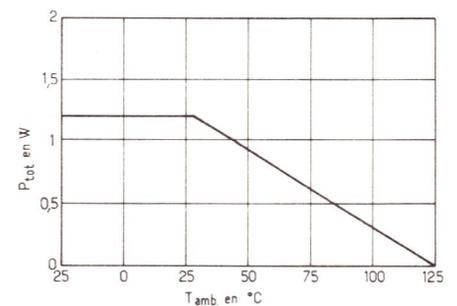

Figure 5
- Puissance totale dissipée	(voir figure 5)